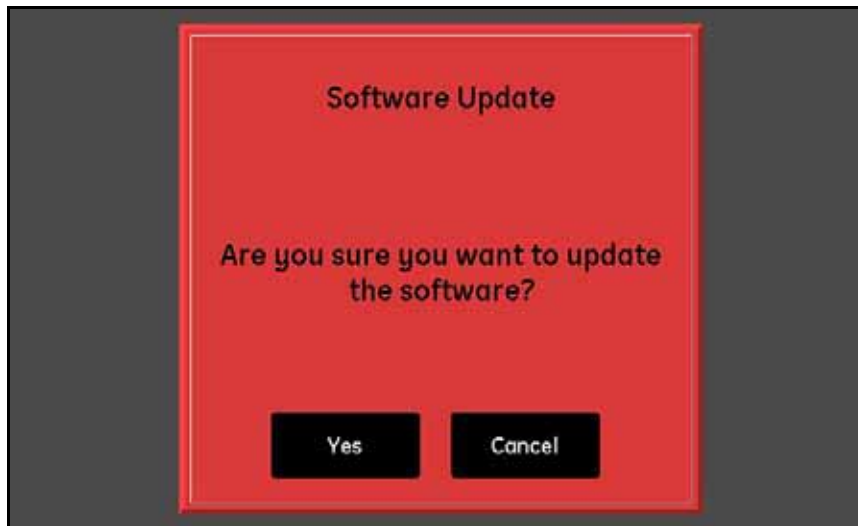

Figure 37: Software Update Confirmation Screen
2. Tap Yes at a screen similar to *Figure 37* below to confirm your choice, or tap Cancel to abort the update.